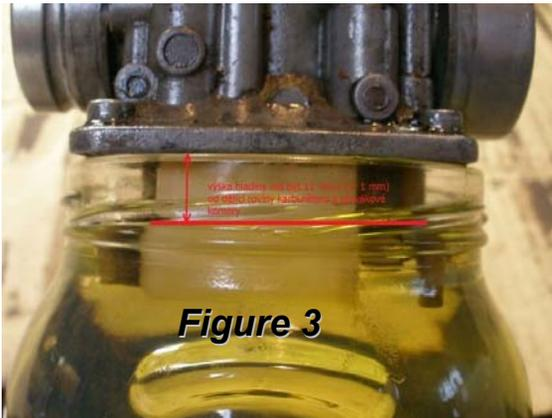

Figure 3
- **Check under the Lines Glass (Fig. 3) (tolerance of +/- 1 mm)**